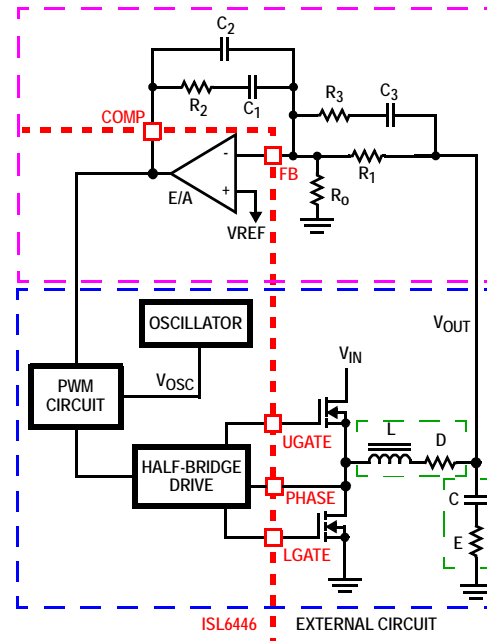

FIGURE 26. VOLTAGE-MODE BUCK CONVERTER COMPENSATION DESIGN
Figure 26 highlights the voltage-mode control loop for a synchronous-rectified buck converter, applicable to the ISL6446 circuit. The output voltage ( $V_{OUT}$ ) is regulated to the reference voltage,  $V_{REF}$ . The error amplifier output (COMP pin voltage) is compared with the oscillator (OSC) modified sawtooth wave to provide a pulse-width modulated wave with an amplitude of  $V_{IN}$  at the PHASE node. The PWM wave is smoothed by the output filter (L and C). The output filter capacitor bank’s equivalent series resistance is represented by the series resistor E.
The compensation network consists of the error amplifier (internal to the ISL6446) and the external  $R_1$  through  $R_3$ ,  $C_1$  through  $C_3$  components. The goal of the compensation network is to provide a closed loop transfer function with high 0dB crossing frequency ( $F_0$ ; typically 0.1 to 0.3 of  $f_{SW}$ ) and adequate phase margin (better than  $45^\circ$ ). Phase margin is the difference between the closed loop phase at  $F_{0dB}$  and  $180^\circ$ . The equations that follow relate the compensation network's poles, zeros and gain to the components ( $R_1$ ,  $R_2$ ,  $R_3$ ,  $C_1$ ,  $C_2$ , and  $C_3$ ) in Figure 26. Use the following guidelines for locating the poles and zeros of the compensation network:
1. Select a value for  $R_1$  (1k $\Omega$  to 5k $\Omega$ , typically). Calculate the value for  $R_2$  for desired converter bandwidth ( $F_0$ ). If setting the output voltage via an offset resistor connected to the FB pin,  $R_0$  in Figure 26, the design procedure can be followed as presented in Equation 13.